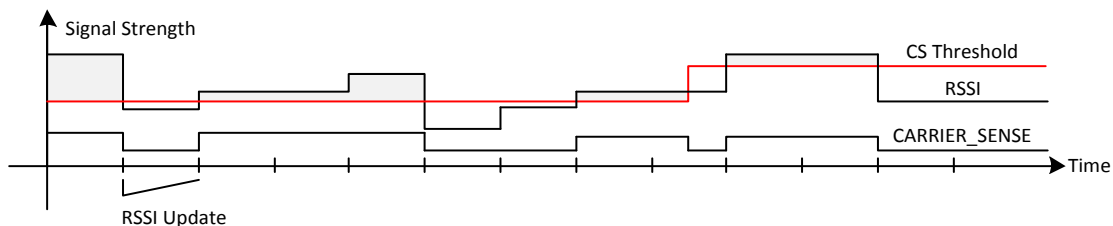

Figure 15: CS vs. RSSI_UPDATE
Carrier Sense (CS) indication will also be affected by the setting of `AGC_CFG0.RSSI_VALID_CNT`. After the RSSI is valid it will be continuously compared to the CS threshold set in the `AGC_CS_THR` register, but since the RSSI update rate is given by the `RSSI_VALID_CNT` register field, this will in practice limit the CS update rate as well. The exception is when the CS threshold is changed while in RX mode. The `CARRIER_SENSE` signal will then be updated immediately (if needed). For more info on CS, see Section 6.9.1. Figure 15 shows when CS is updated with respect to the RSSI.